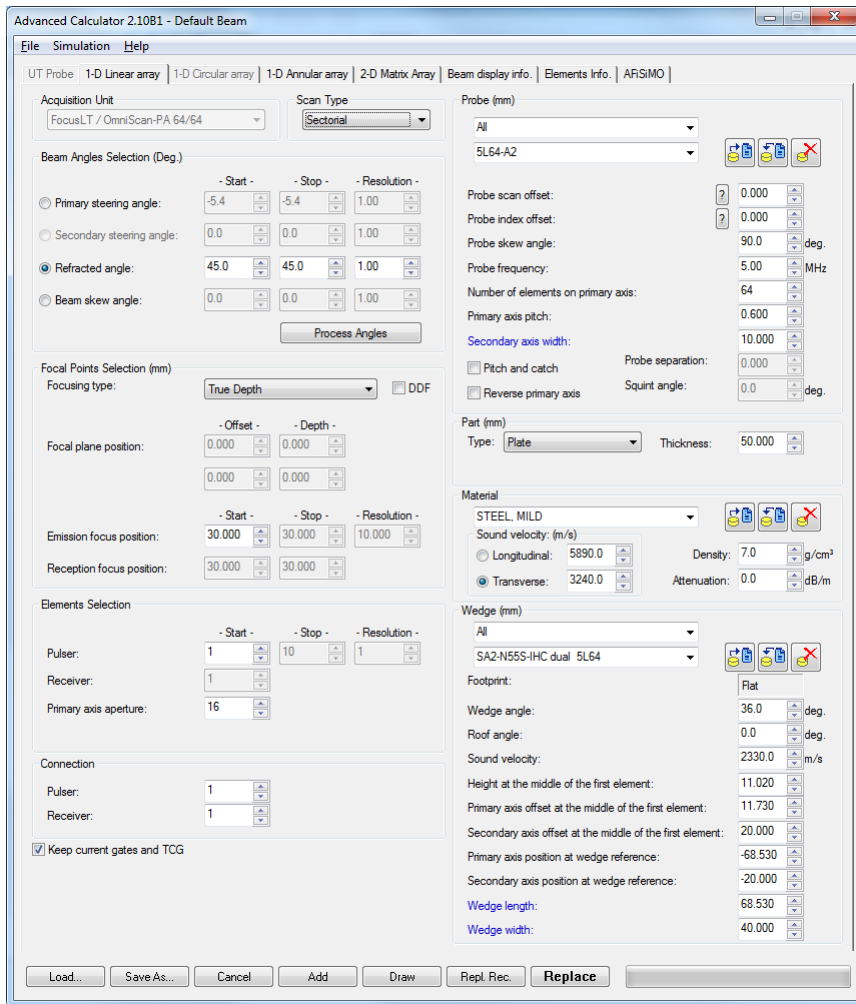

Figure 4-6 The Advanced Calculator dialog box
- a) For an angle beam phased array inspection, click the **1-D Linear Array** tab (see Figure 4-6 on page 233).